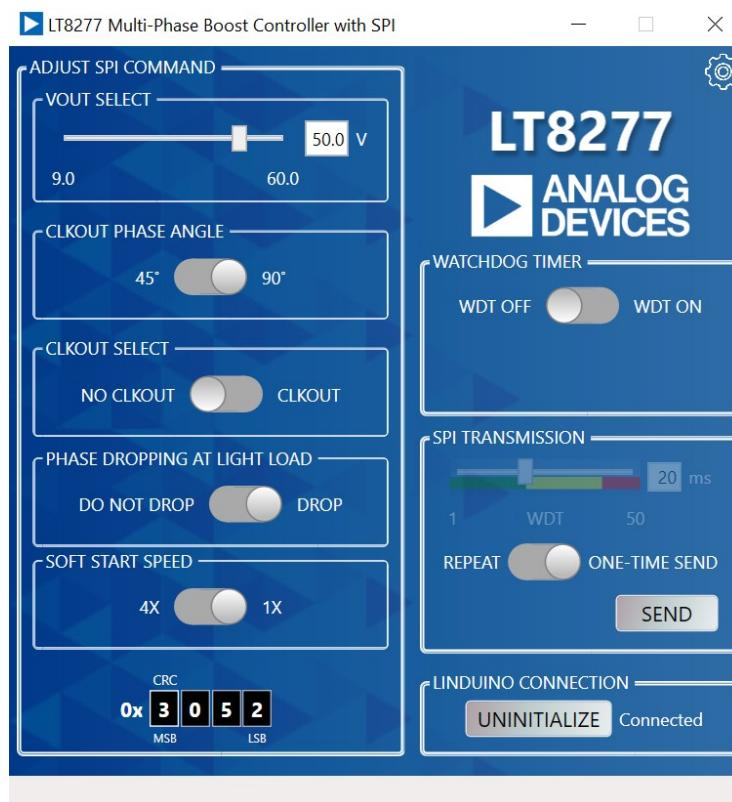

Figure 9. One-Time Sending Example
1. After GUI initialization and setup powered on, with EVAL-LT8277-AZ board JP3 set to "EXT\_CTRL", set GUI "Watchdog Timer" and "SPI Transmission" sections like figure 9, which turns off WDT and sets SPI transmission as one-time send mode.
2. Use the "Adjust SPI Command" section to set the desired SPI command. In Figure 9, the VOUT select is adjusted to 50V.